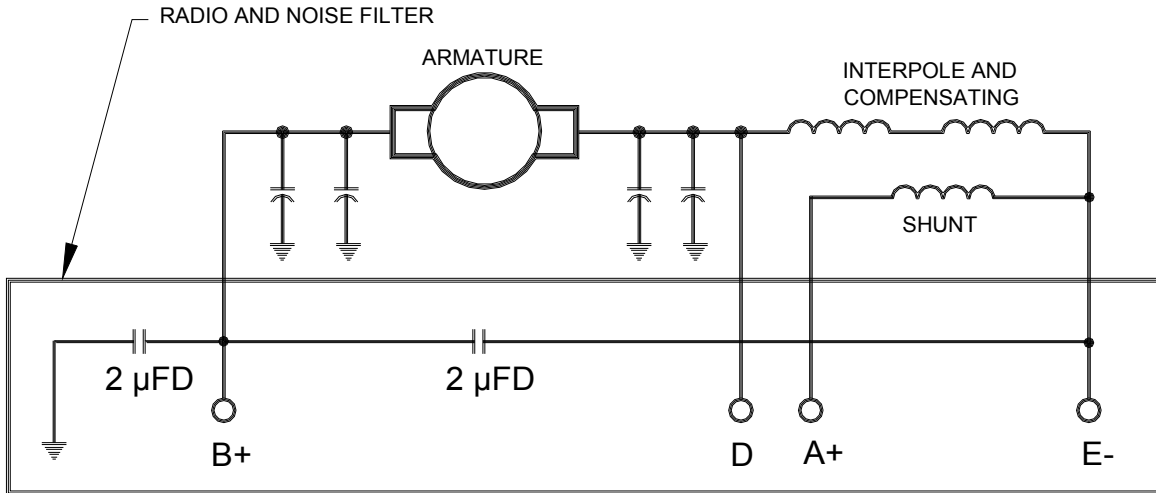

Figure 2 - 23081 Series I DC Starter-Generator Schematic Diagram, Shunt Start
4. **Model Operation** (Refer Figure 2, Figure 3 and Figure 4)
During the engine start cycle, the aircraft power bus applies DC voltage across terminals B+ and E-, supplying current to the armature and stator windings. At the same time, a voltage is applied to shunt field terminals A+ and E- from a Generator Control Unit (GCU). Starting power can be supplied by aircraft batteries or a ground power source. See Figure 2.